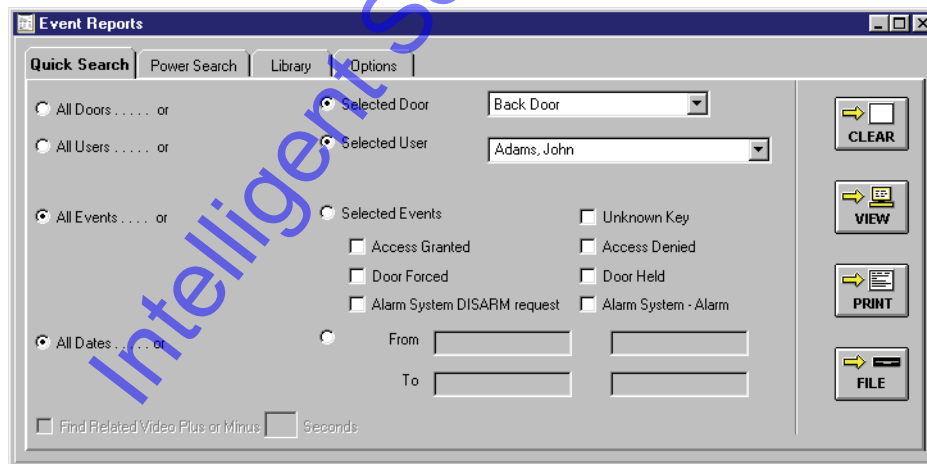

Figure 7-15: Selected User
3. Scroll through the list and locate the user for which a report is desired. Click on that user name and it will be entered into the selected user field (see Figure 7-15).